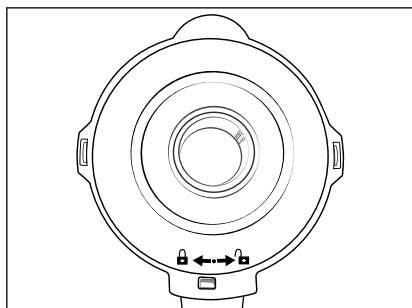

Fig. 2
4) Press the lid **2** firmly down onto the blender **3**. Close the lid **2** by turning it clockwise to position  until it audibly engages (see Fig. 2).